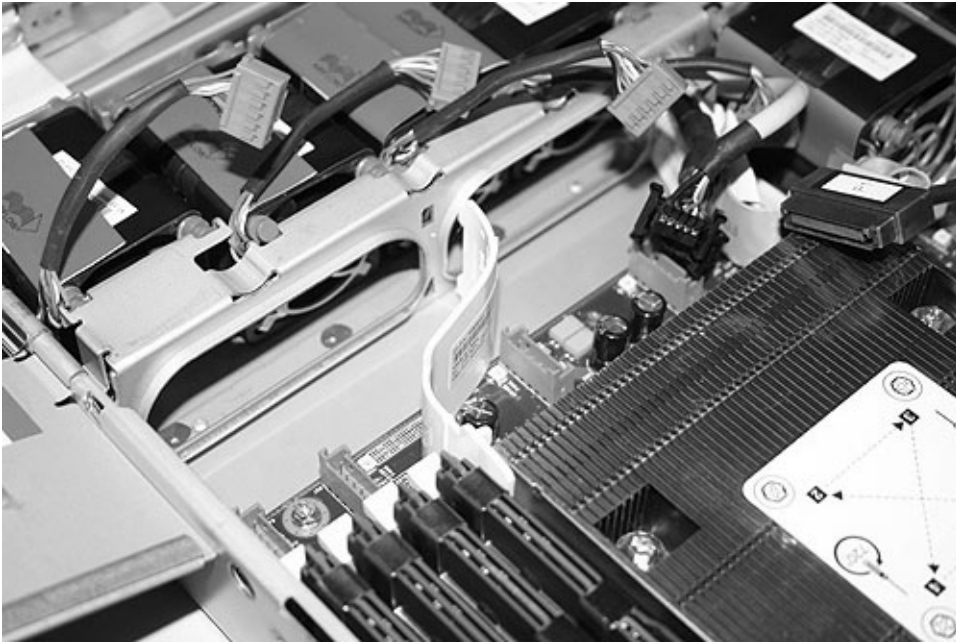

Figure 298. Right air baffle on the SAN Volume Controller 2145-8G4 system board
9. Replace the right air baffle, which is shown in Figure 298 on page 296.